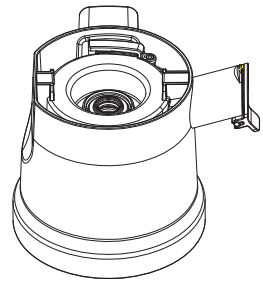

Fig 12c
- c. The big flat size of the seal ring will be inside while the small and ribbed side is outside the Squeezing Bowl. (Fig 12c)